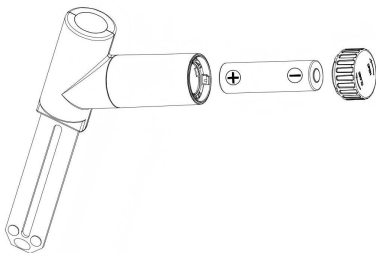

Figure 4
1. Insert one AA battery into the battery compartment as shown in Figure 4.